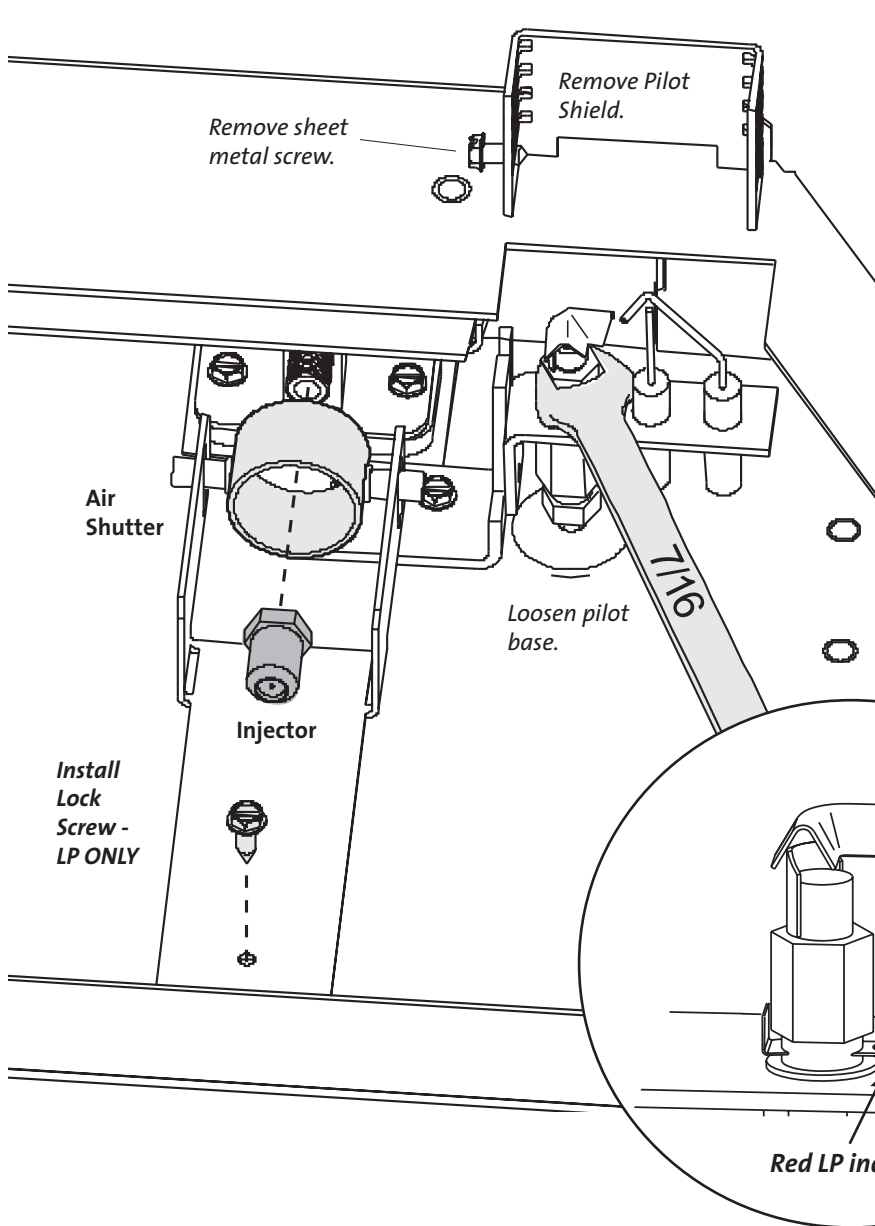

Figure 4.
See fig. 4. Using a 1/2" open end wrench or deep-well socket, remove the burner injector from the brass elbow and replace it with the injector supplied in the conversion kit.
6. **PROPANE ONLY: Install the 1/2" Air Shutter Lock Screw (Fig. 4)** provided in the LP Conversion Kit. The screw automatically sets the appropriate shutter opening for propane.
7. **Convert the dual-fuel pilot orifice.** Fig. 4.